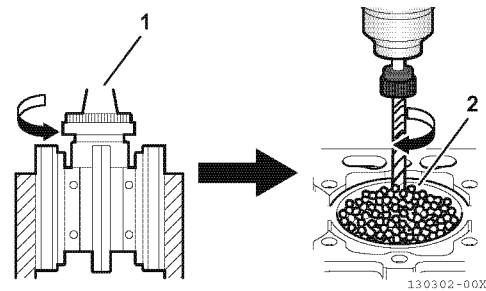

Figure 6-92
Deglazing - A used cylinder that did not require boring or honing, should always be deglazed with a ball hone (2, **Figure 6-92**) before installing new piston rings. This will properly prepare the cylinder surface to allow new piston rings to seat properly.
- Use a 300-grit hone at 300 - 1200 min⁻¹ (rpm). (**Figure 6-92**)